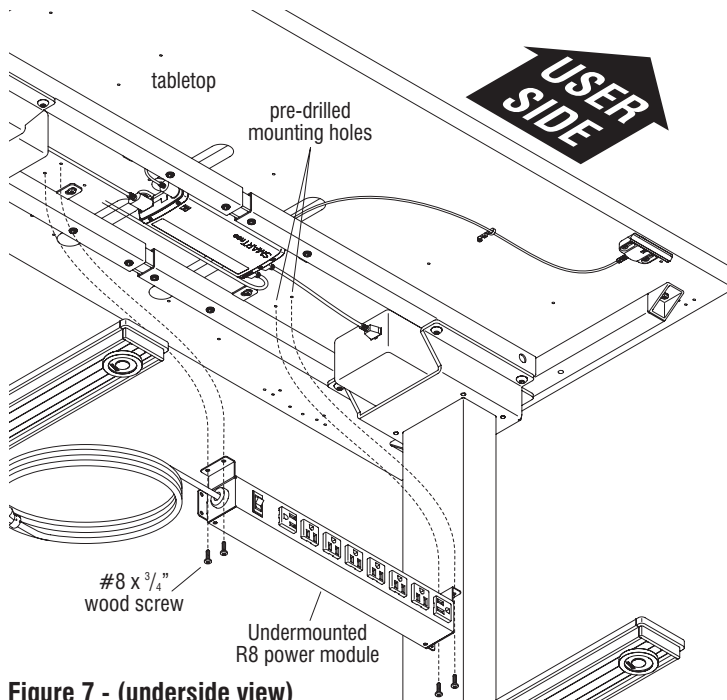

Figure 7 - (underside view)
1. Position the Undermounted R8 power module to the underside of the tabletop at the desired pre-drilled mounting location. Assure that the power cord can be routed easily to a power source (Figures 7 & 8).
2. Align the pre-drilled mounting holes of the R8 power module with the drilled mounting holes underneath the tabletop. Secure the R8 power module to the tabletop using four #8 x 3/4 inch wood screws. Take care to not over tighten (Figures 7 & 8).